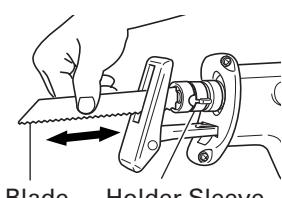

Fig. 7
- (5) Pull the back of the saw blade two or three times by hand and check that the blade is securely mounted. When pulling the blade, you will know it is properly mounted if it clicks and the holder sleeve moves slightly. (Fig. 7)